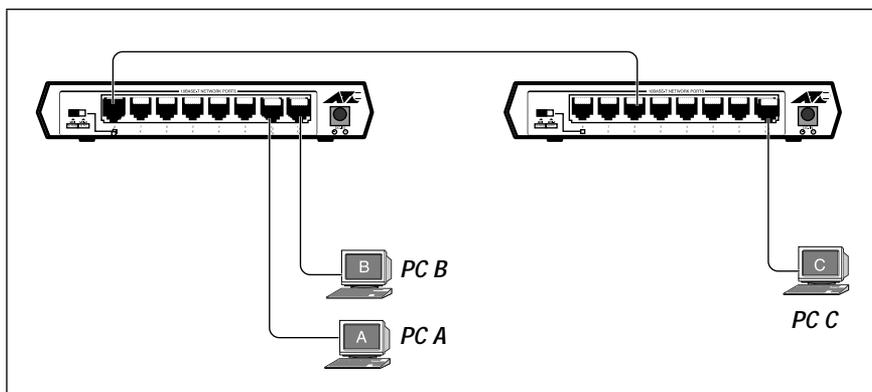

Figure 11: AT-MR815T Connection Test
In order to test for a valid connection, as well as confirm the correct operation of the network, follow the steps outlined below. Refer to Figure 11.
1. Connect port 1 and port 2 of a single *AT-MR415T/AT-MR815T Micro Repeater* to two computers and turn on the HUB power supply by connecting the AC adapter. (In Figure 11 above, PC B is connected to port 1 and PC A is connected to port 2.)